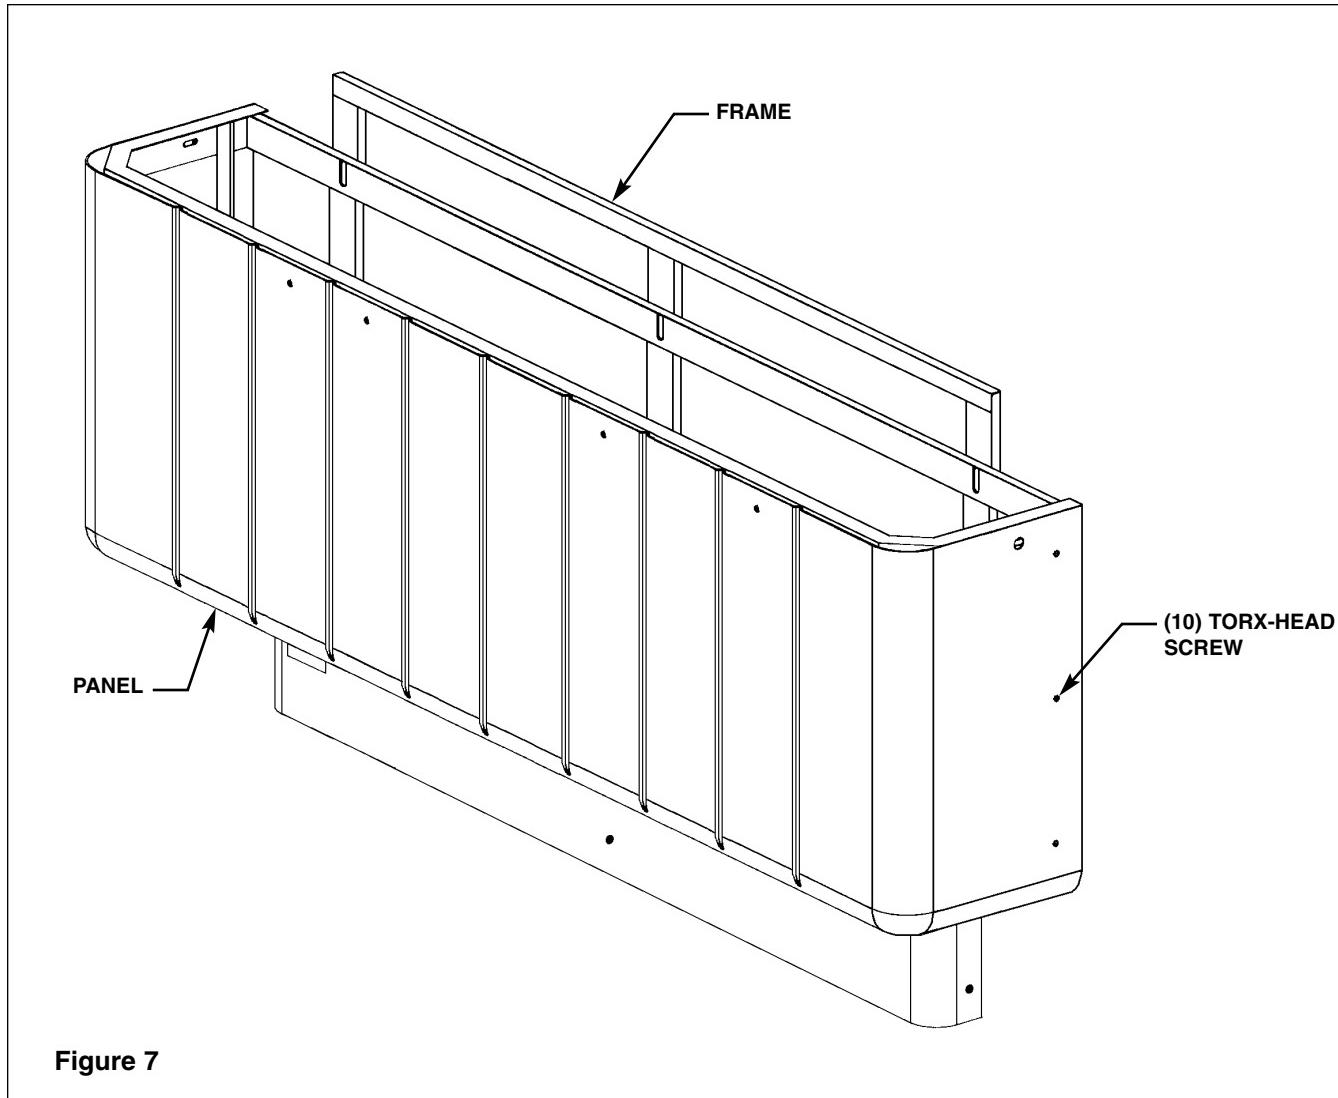

Figure 7
2. Install the panel to the frame. Fasten panel with the ten Torx-head screws provided (see Figure 7 below).